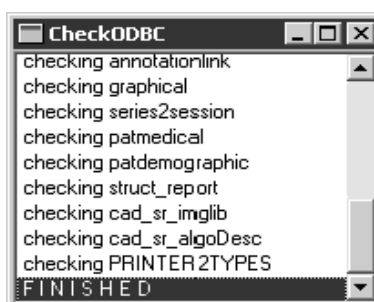

Fig. 20 Check: Access to database
2. a) If the connectivity test ends with FINISHED, the check is ok (refer to Fig. 20).